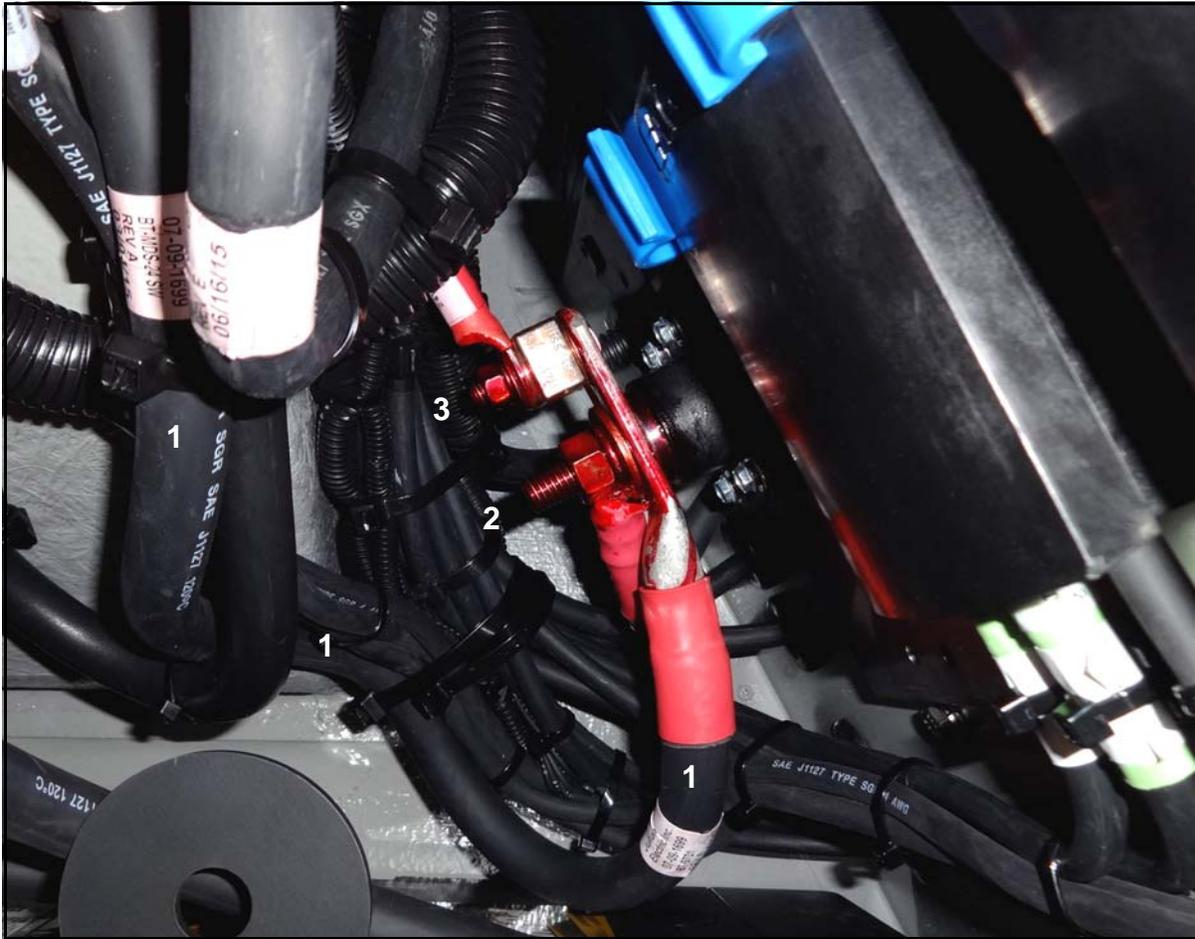
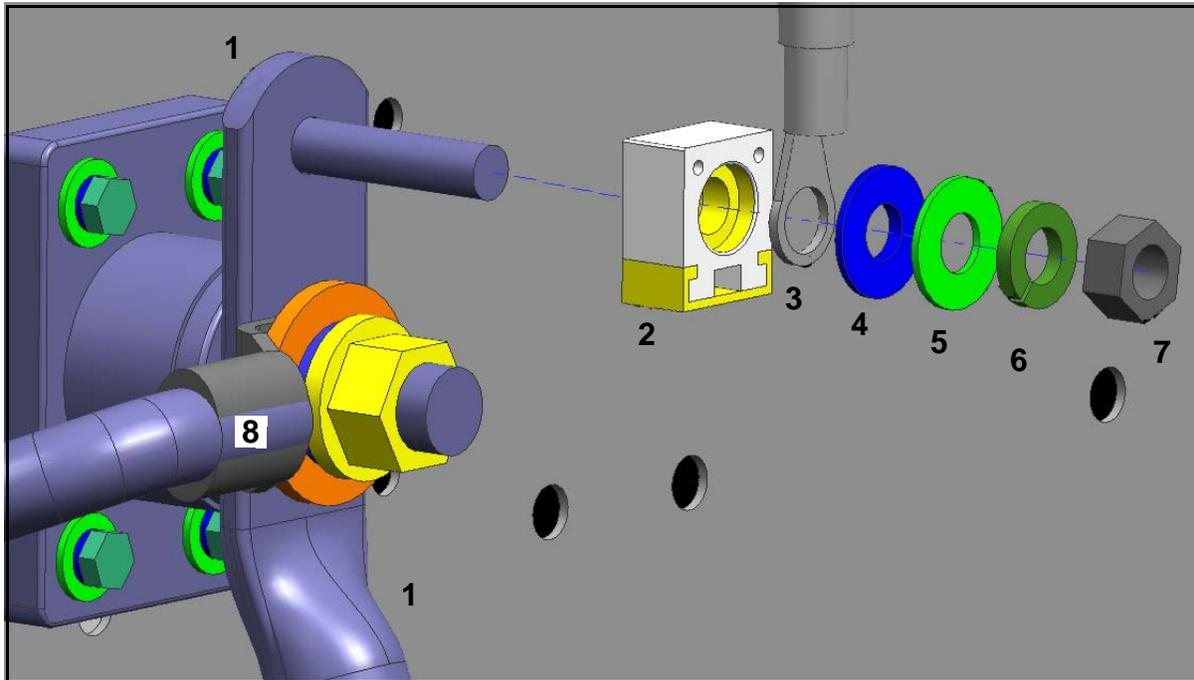

Figure 3. 24 V power stud cable and routing.
Figure 4. Upper stud install orientation.
10. Locate the upper stud (0.3125 inch ID) on the 24 V power stud cable shown in Figure 3. Remove and **discard** the nut, washers and the 150 Amp fuse. Remove the cable from the fuse holder.
11. Locate the lower stud (0.500 inch ID) on the 24 V power stud cable shown in Figure 3. Remove and **retain** the nut, lock washer and flat washer. Disconnect the harness (Item 8 / Figure 4) from the stud.
Item	Figure 3 Description
15. Locate the upper stud (0.3125 inch ID) on the 24 V power stud cable, orient the new parts in the exact order shown in Figure 4. Torque the nut to 96-106 in-lbs.
To ensure proper assembly installation, orient the nylon shoulder washer (Item 4 / Figure 4) with the shoulder facing the ring of the condenser and evaporator power cable.
Item	Figure 4 Description
16. Locate the lower stud (0.500 inch ID) on the 24 V power stud cable, using the existing nut, lock washer and flat washer install the harness (Item 8 / Figure 4). Torque the nut to 290-310 in-lbs.